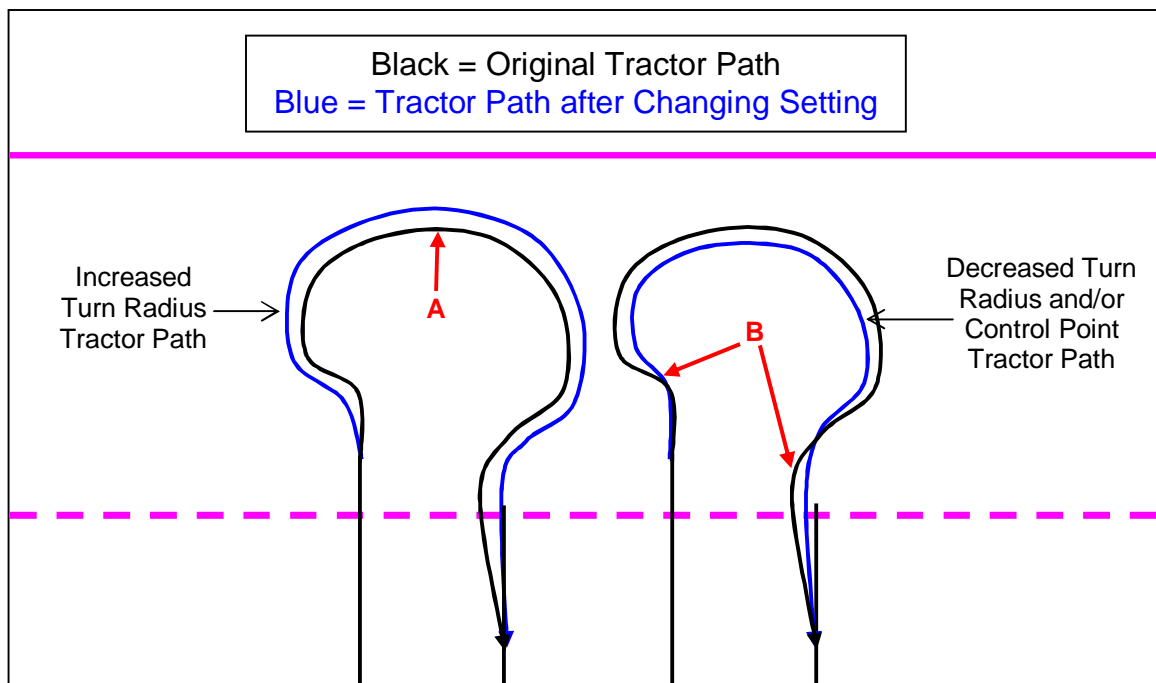

Figure 12
- If tractor is getting off-track in the middle of the turn (see point A in Figure 12), increase the Turn Radius until the tractor is able to stay on track.
- If tractor is getting off-track at the beginning or end of the turn (see point B in Figure 12), try decreasing the Turn Radius until the tractor is able to stay on track. If the Turn Radius is decreased too far, it may start to get off track in the middle of the turn.
- Decreasing the implement Control Point (D) offset will also create end turns that are easier for the tractor to track on at the start and end of the turns with pull type implements. However, this can result in undesirable guess row performance. An increased End Turn Offset may help eliminate a bad guess row.